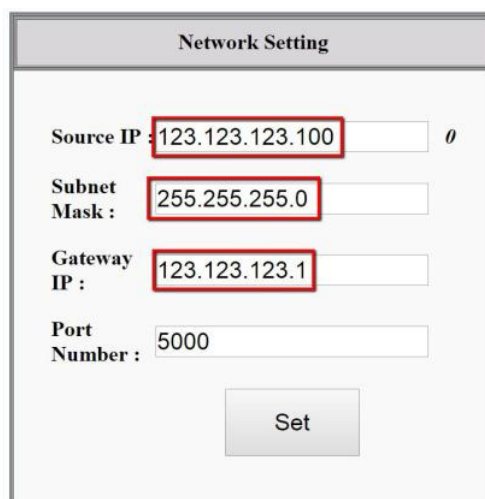

Figure 22 Front Projector New IP Setting
- j. Perform IP Configuration by refer to below Figure 22.